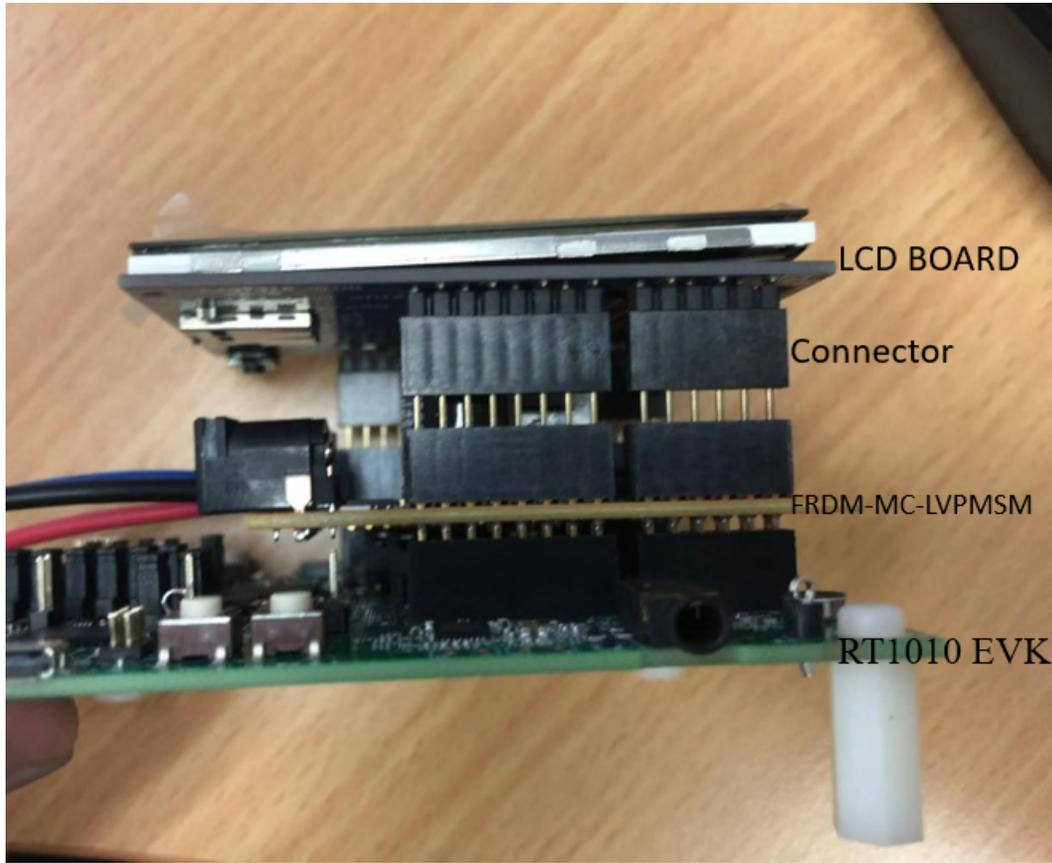

Figure 8. Board connection
- Connect the FRDM-MC-LVPMSM to RT1010 EVK ,LCD with the connector plug in the FRDM-MC-LVPMSM board like following Figure 8